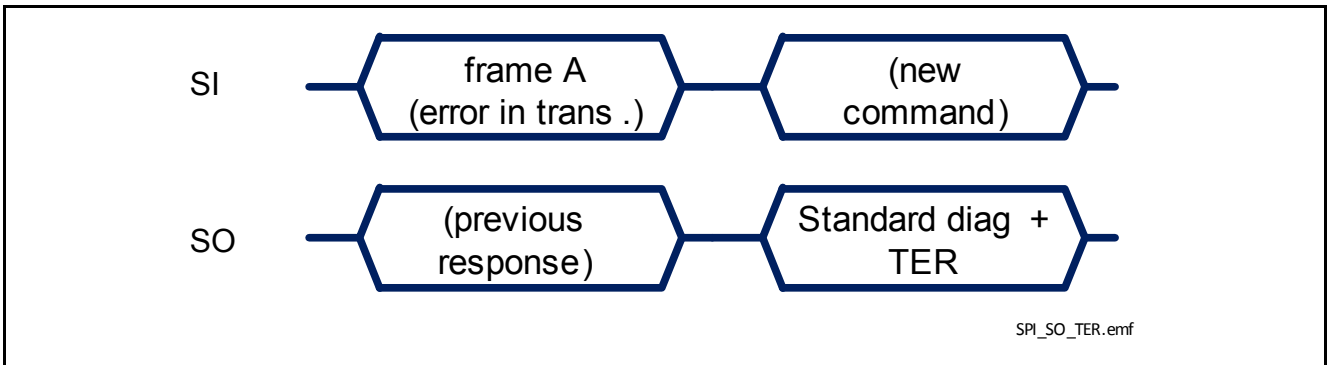

Figure 12-8 TLD5541-1QV response after a error in transmission
- in case an error in transmission happened during the previous frame (for instance, the clock pulses were not multiple of 8 with a minimum of 16 bits), shown in Figure 12-8